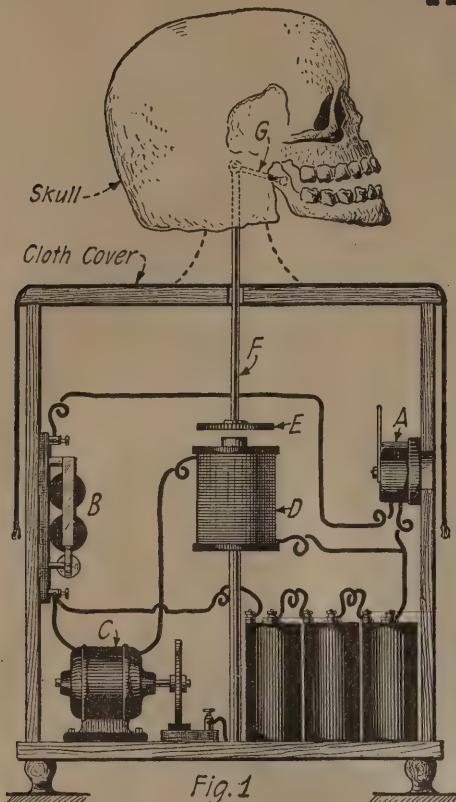
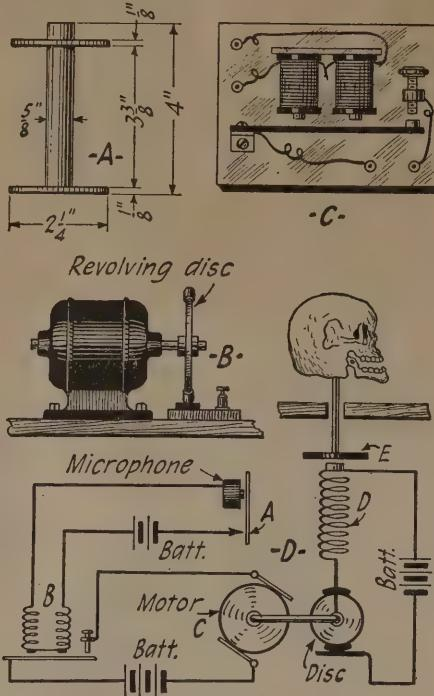

Fig. 1
Fig. 2
For example, there is the special oscillator connection of Figs. 1 and 2. You will notice that two different waves entirely are being emitted, viz., electromagnetic and electrostatic. In Fig. 1 the electromagnetic is shown operating a lamp, and in Fig. 2 the electro-static.
Fig. 1 shows the general layout of this rather startling experiment, the skull grimly opening and shutting its jaws and performing the other motions as described. Further details are given in Figs. 2 and 3, the whole thing constituting an interesting if somewhat ghastly display. The motor revolving a disc, operates the circuit breaker, affecting the magnet periodically. A relay is employed to give good actuating current.
The general principles upon which this trick works are as follows: A sensitive microphone (A), Fig. 1, of the carbon ball type, is connected in circuit with a relay (B), see also Fig. 2 (D), and its armature circuit is linked with a motor (C) and battery. Upon the motor shaft a proper circuit breaker is placed and the latter is connected in series with a powerful electromagnet (D'), actuating an iron armature (E), which is connected to a rod (F), operating lever (G), which is fastened to the (balanced) lower jaw of the skull, as perceived. Now, when you speak or produce any sounds near the instrument, the microphone will be disturbed, operating the relay, which will connect and work the motor, and in turn the circuit breaker. Consequently the electromagnet (D') is put in operation and the result is that the jaw is pulled up by the action of the rod (F) actuated by the magnet. When the current is released the slightly overbalanced weight of the jaw will cause it to drop back. The arrangement herewith shown will only cause a double rap of the jaw, but the number of them may be varied by increasing the
The constructional details of the individual apparatus are shown in Fig. 2. The electromagnet (A) is made to size, as perceived, and is fully wound with No. 22 B. & S. copper magnet wire. The circuit breaker (B) consists of a disc revolved by a motor and which makes contact with a brass strip located at the bottom of the base, as depicted. The relay (C) is made of two bell magnets actuating an iron armature carrying a contact point which contacts upon a second point, as seen. Connections for the various parts are shown in drawing (D). Practically any kind of relay can be advantageously used. The transmitter is of the supersensitive type and which can readily be made by following the instructions given in the November, 1915, issue of this journal on page 333 in an article entitled "How to Build a Dictaphone." After these various instruments are made they should be properly arranged as portrayed in Fig. 1 and connected as shown in (D), Fig. 2. The instrument is now finished and ready to be used. The only thing necessary to operate the jaw of the skull is to talk or blow a whistle, which will affect the transmitter and in turn the jaw, thereby caus-